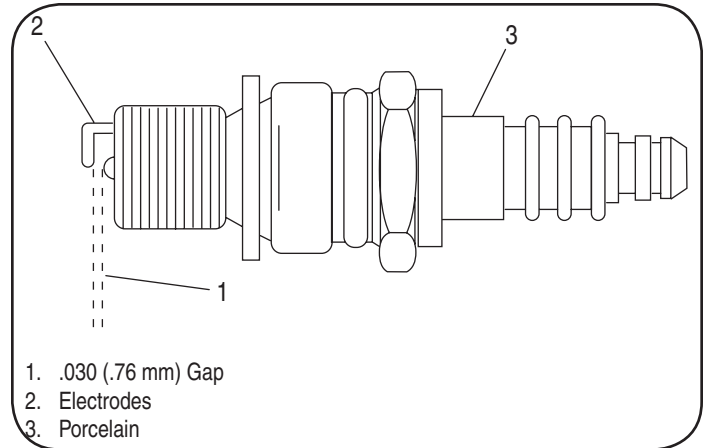

Figure 15
4. Check electrode gap with a feeler gauge and set gap to .030 (0.76mm) if necessary. See Figure 15.